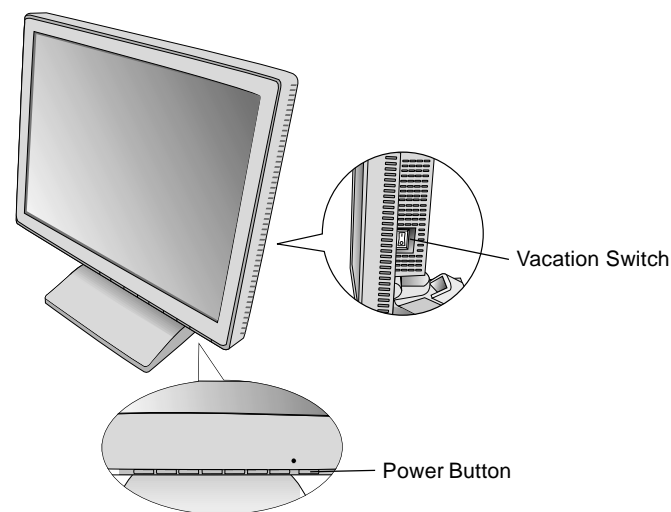

Figure D.1
6. The Vacation Switch on the right side of the monitor must be turned on (**Figure D.1**). Turn on the monitor with the Power Button and the computer.